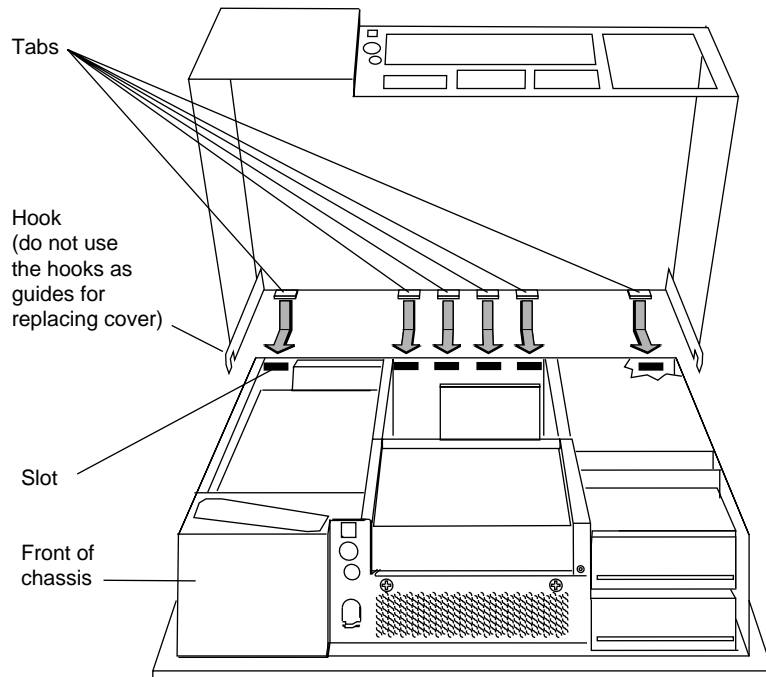

Figure 2-29 Replacing the Cover
1. Locate the tabs on the inside and back of the top cover and the slots on the back of the workstation. See Figure 2-29.
3. Insert the locator tabs into the holes. Rotate the cover forward and push it down until it snaps into place (Figure 2-29).